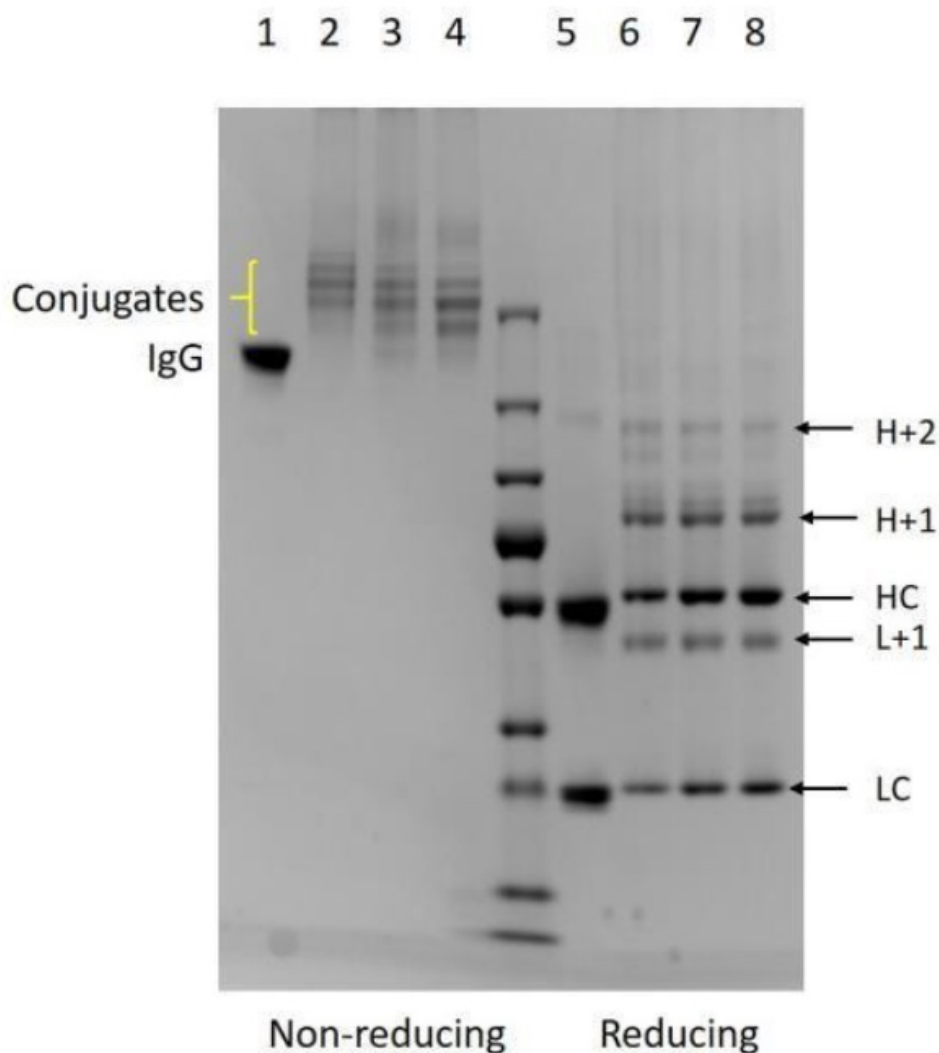
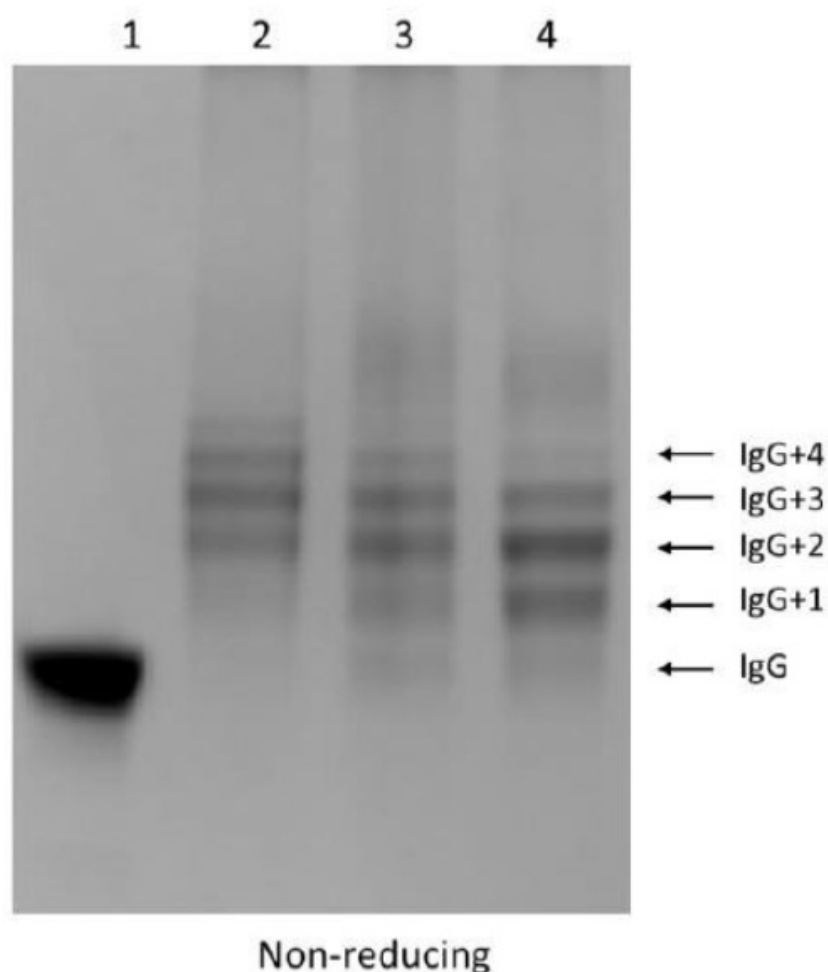

Fig 2.
Fig 3.
12.4. Discrete conjugate bands are more commonly seen with monoclonal antibodies and with lower loadings than those used above. In Fig. 2, Tracks 2 and 6 were loaded with 2 μg of conjugate produced under non-reducing or reducing conditions. At this lower loading, the H+2 band is still visible but H+3 (not labeled
on Fig. 2) is faint. On the non-reducing gel, the number of oligos attached to IgGs is readily determined. Further commentary and details of the other samples (Tracks 3, 4, 7 and 8) are given below. A magnified view of the IgG conjugates in Fig. 2 is shown in Fig. 3.
12.5. In Fig. 3, track 2 shows no free IgG and very little IgG with 1 oligo attached. Mostly there are 2-5 oligos per IgG (IgG+5 is not marked by an arrow above). In tracks 3 and 4, the conjugation reactions comprised, respectively, 20 μ g in 10 μ L and 20 μ g in 20 μ L. Not surprisingly, the labeling
12.6. The differences among the samples under reducing conditions (Tracks 6, 7 and 8, Fig. 2) are less pronounced and the main observation is increasing H or L chain intensity as conjugation efficiency is reduced. For each application, it may be necessary to determine the gel profile that is associated with best assay performance, and non-reducing gels are generally more useful.